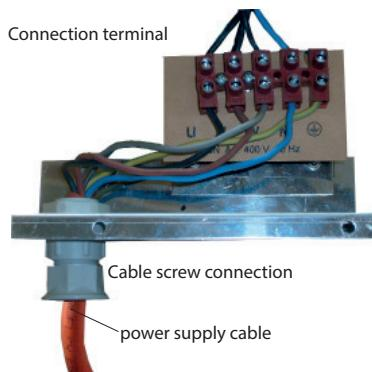

Fig. 4
3. Make the cable connections according to the wiring diagram. The corresponding wiring diagram is given in this manual (fig. 4).